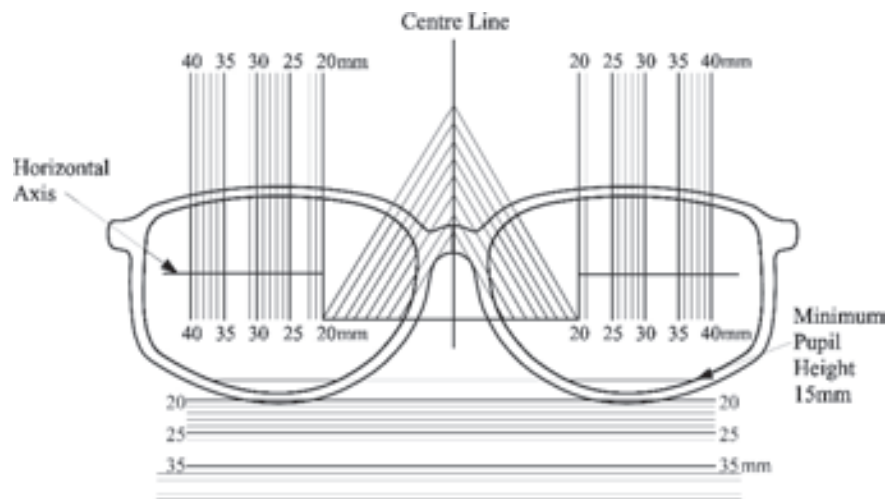
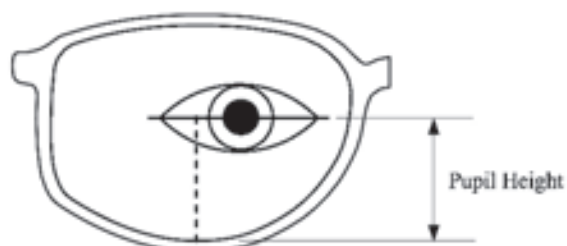

Figure 6
Figure 7
- Place the centre of the frame (Figure 6) on the centre line of the Measurement Chart (and the pupil position of the left eye on the horizontal axis). Read the monocular pupil distance and then the pupil height from the lowest point of the inside bottom rim of the frame (Figure 7). Repeat for the right eye.